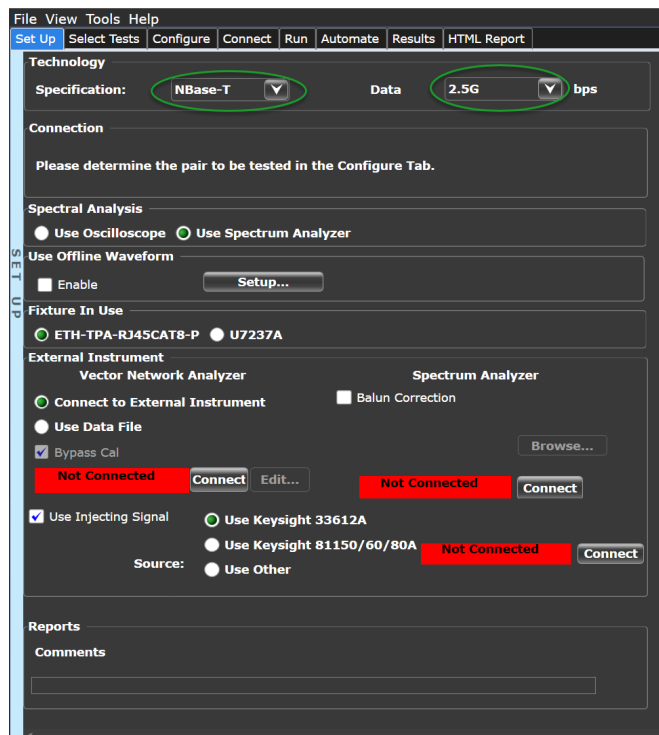

Figure 32 Set Up tab settings for Transmitter Nonlinear Distortion tests using Spectrum Analyzer
- 14 Select the **Use Injecting Signal** check box, as shown in Figure 32, so that the Test Application is able to connect to the waveform generator to run the Transmitter Nonlinear Distortion tests.